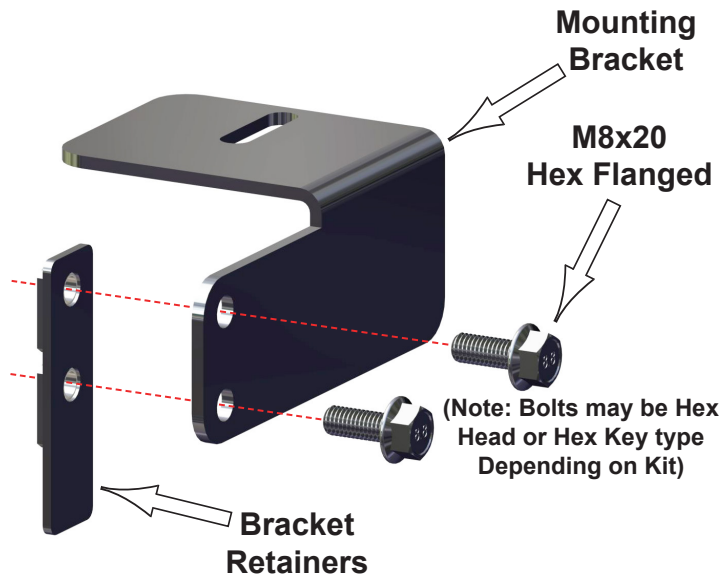
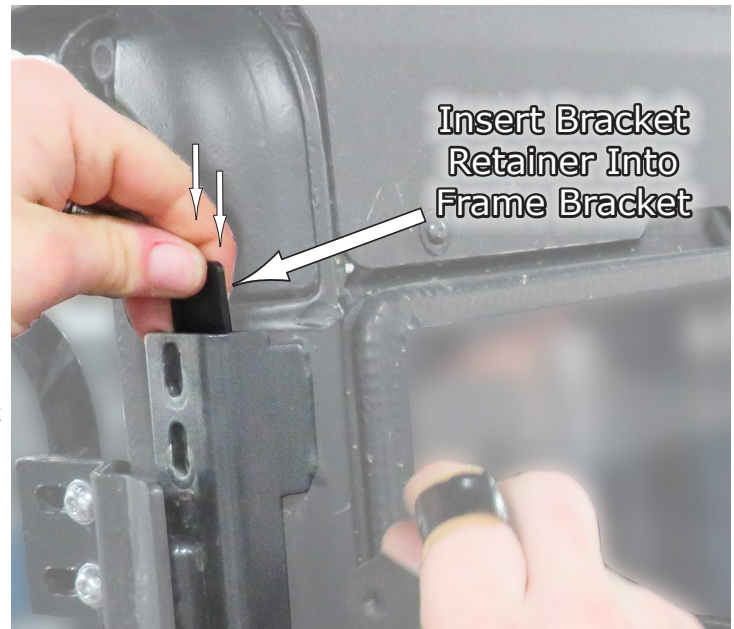

Fig.1a
Fig.1b
1. The first thing you need to do is locate the **Mounting Bracket** and **Bracket Retainer** provided in your kit for one side, and **Two (2)** of the **M8x20 Hex Flanged Bolts** also provided in your kit. See **Fig.1a**. Then insert the **Bracket Retainer** inside the frame bracket with the flat side of the Bracket Retainer flush up against the frame bracket as shown in **Fig1b**.